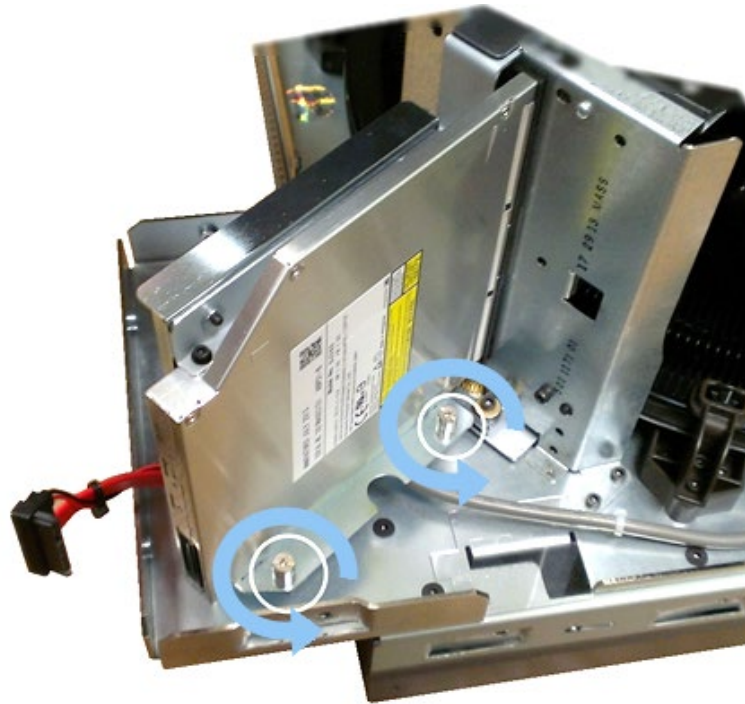

Figure 12
3. On the other side of the drive, use the Philips screwdriver to remove the 2 self-retaining mounting screws. See Figure 12.